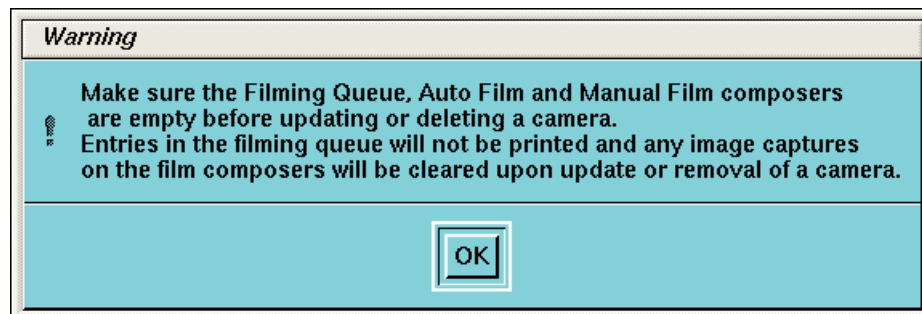
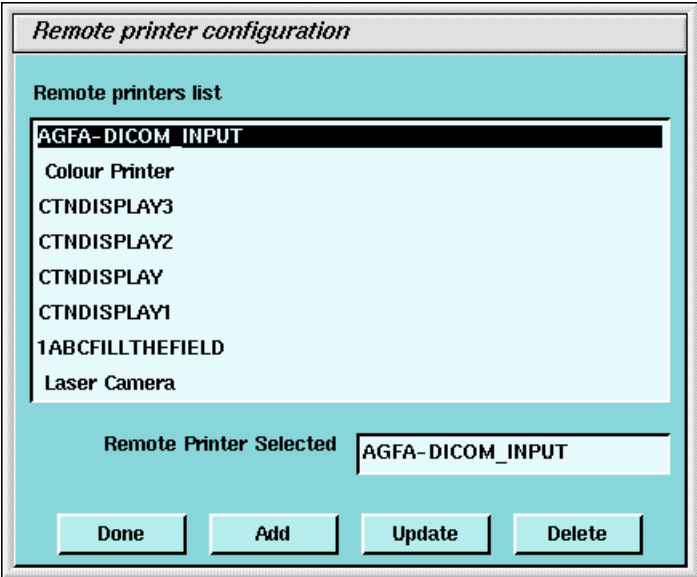

Figure 12-8 Warning Screen
Figure 12-9 Printer Configuration GUI
- 3.) The Graphical User Interface displayed shows a list of cameras installed (See Figure 12-9). First, you must click OK in the warning message box. See Figure 12-8.
- a.) To add a new camera, click the ADD button (See Figure 12-9).